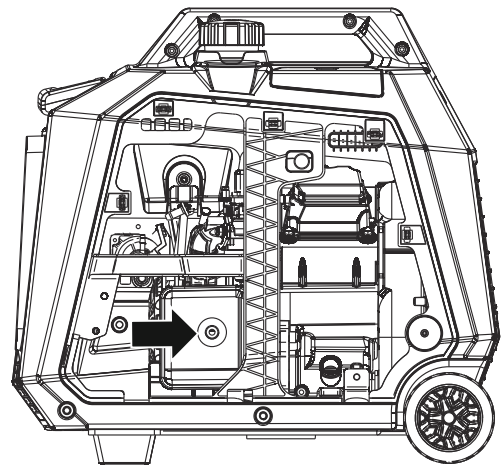

Figure 17: Unscrew air cleaner cover
3. Unscrew the air cleaner cover and tip the cover down (see Figure 17)